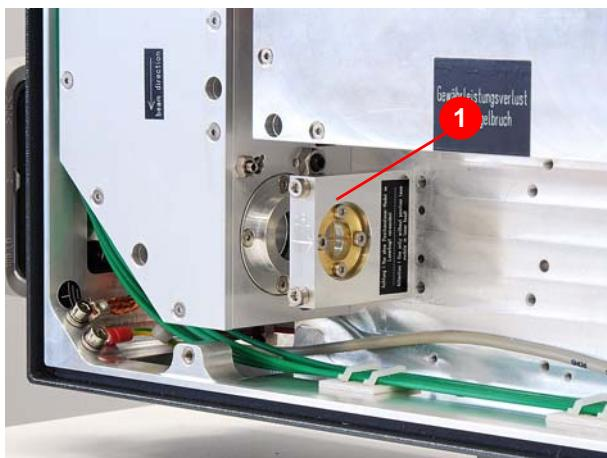

Figure 6.30 Mounting the adjusting aperture
15. Mount the adjusting aperture (1) (Figure 6.30) after the deflecting unit.
- Vertical adjustment (2) ()
19. Remove the adjusting aperture (1) (see Figure 6.30, page 111) after the deflecting unit.